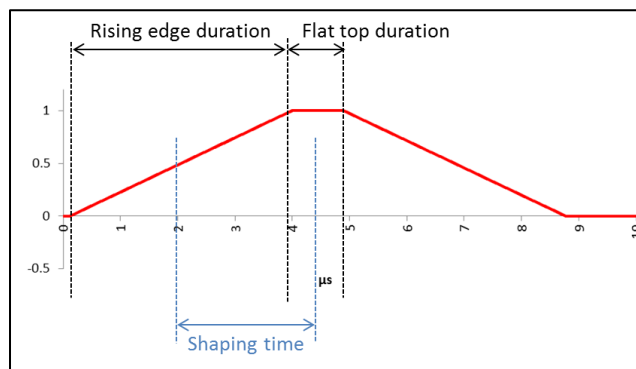

Figure 20: time definition
- Shaping time: although the shaping time is generally defined by the standard deviation of a Gaussian function interpolating the trapezoid, we will use, for convenience, the width at half of maximum of the trapezoid (cf. Figure 20)